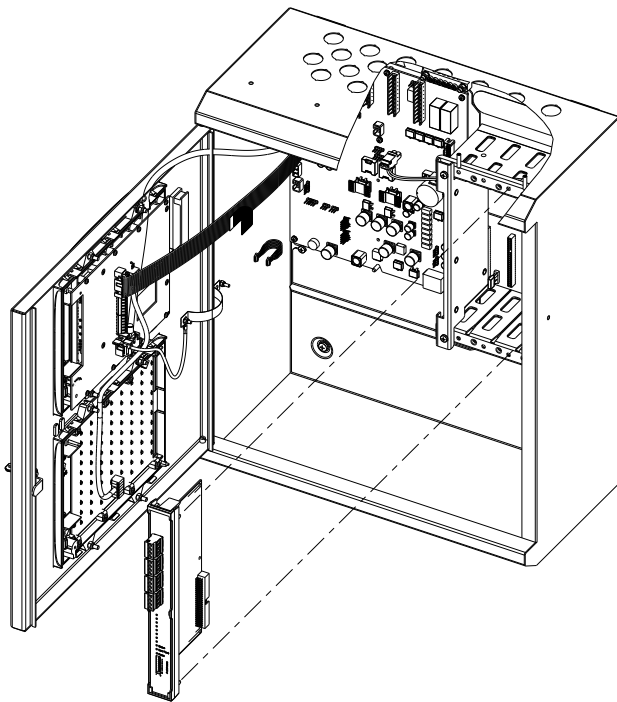

Fig. 22: Slot card installation
For a general impression of what is involved in mounting slot cards, see Fig. 22.
- 8 Insert the card into the appropriate slot in a slot card cage (see Fig. 22). This may be in the main panel housing, or in an expansion housing. See section "Obtain Slot Card Addresses". Push the card firmly until it clicks into place.
- 4 Insert the card into the appropriate slot in the slot card cage (see Fig. 22). This may be in the main panel housing, or in an expansion housing. See section "Plan Slot Card Arrangement" on page 29. Push the card firmly until it clicks into place.